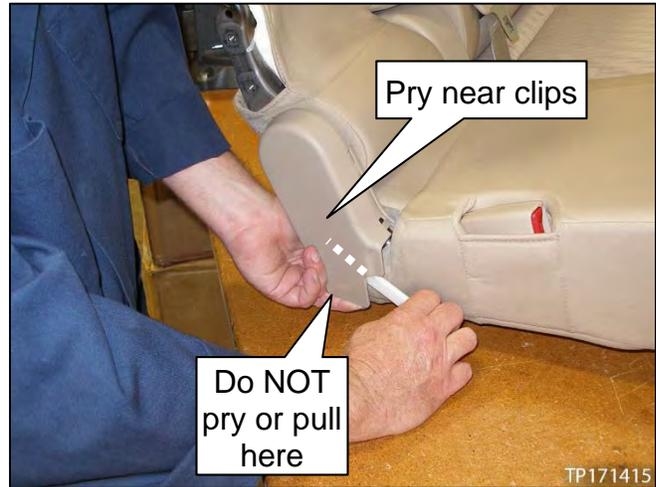

Figure 25
**CAUTION:** Do not pry or pull where shown in Figure 25. Finisher discoloration may occur.